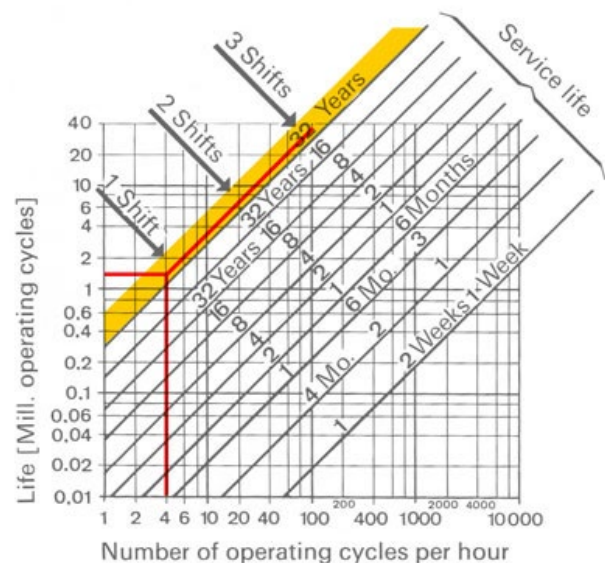

Figure 4
Example 2: What is the expected service life of a contactor with a published electrical life of 1.3 million operations, operating on 1 shift at 4 cycles per hour? See Figure 4.
- Step two: Find the desired operations per hour (4) on the X-Axis.
- Step three: Follow the vertical line from 4 up until it intercepts the imaginary horizontal line for 1.3 (red lines in Figure 4). The two lines intersect above the maximum Service Life line (in orange). The life expectancy is over 32 years.